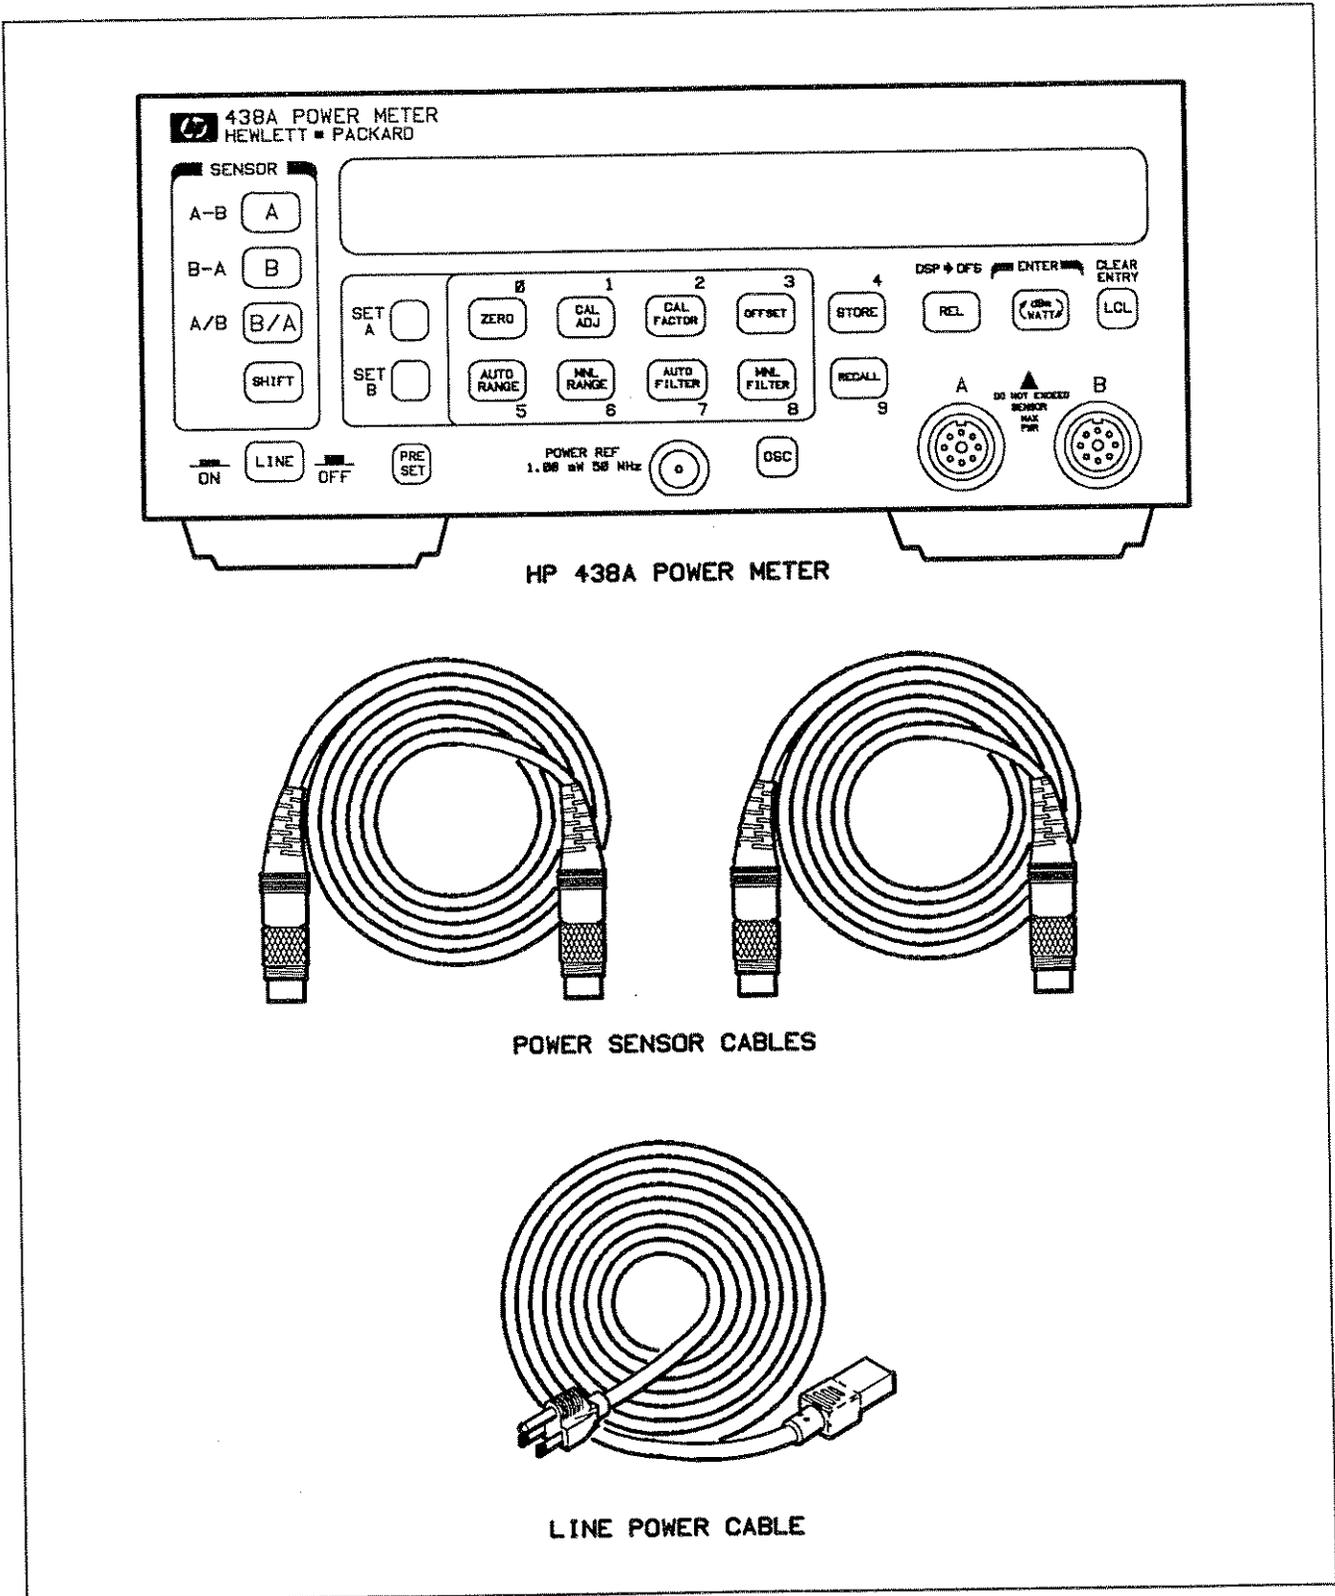

Figure 1-1. HP 438A Power Meter with Accessories Supplied.
**Introduction** This manual contains information required to install, operate, test, and service the Hewlett-Packard 438A Power Meter. The power meter is shown in FIGURE 1-1 with all of its externally supplied accessories. This manual also documents Option 002 which adds the capability of rear panel sensor inputs and a second reference oscillator output.
The accessories supplied with the power meter are shown in Figure 1-1. The line power cable will be supplied in one of several configurations, depending upon the country of destination for the original shipment from the factory. Refer to "Power Cables" in section 2 of this manual. Two power sensor cables, HP part number 11730A, are supplied.